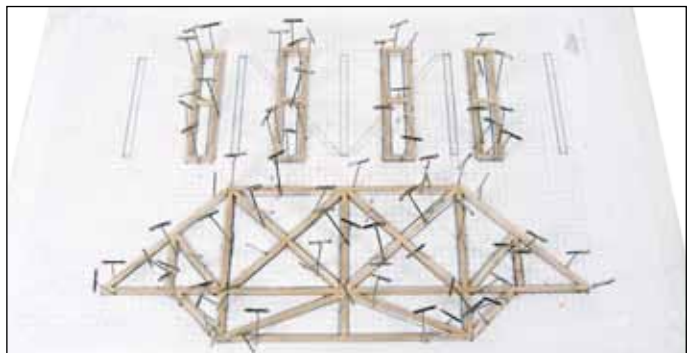

Figure 24 – Side of the bridge and roadway braces completed
8. Cut and construct the cross braces that support the roadway of the bridge (Figure 24). Build each of them exactly the same length.